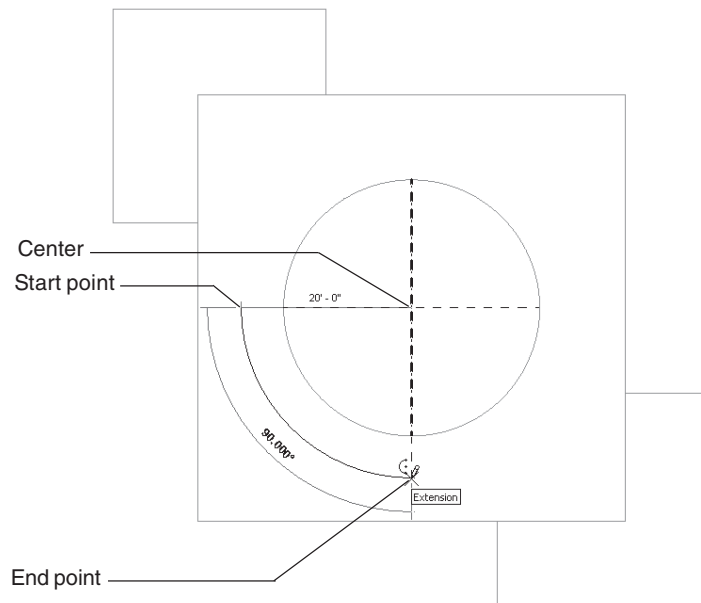

Figure 9-44 Sketching the cutting geometry
- d. Cut the geometry based on the sketch plan to create the atrium and the entrance, using the **Void Form** and **Void Extrusion** tool, refer to Figures 9-44 through 9-46.
15. Move the cursor anti-clockwise to create a quarter arc, as shown in Figure 9-44.